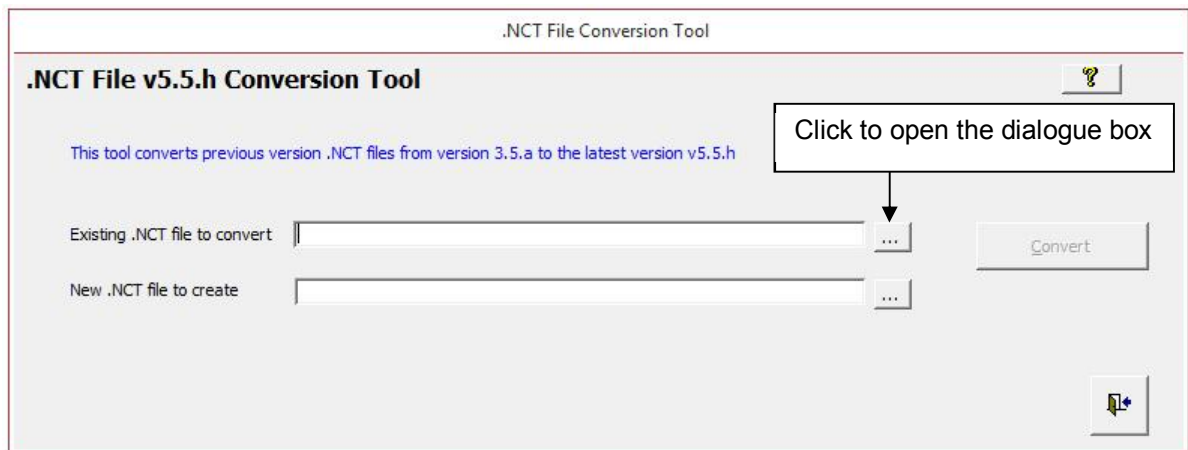
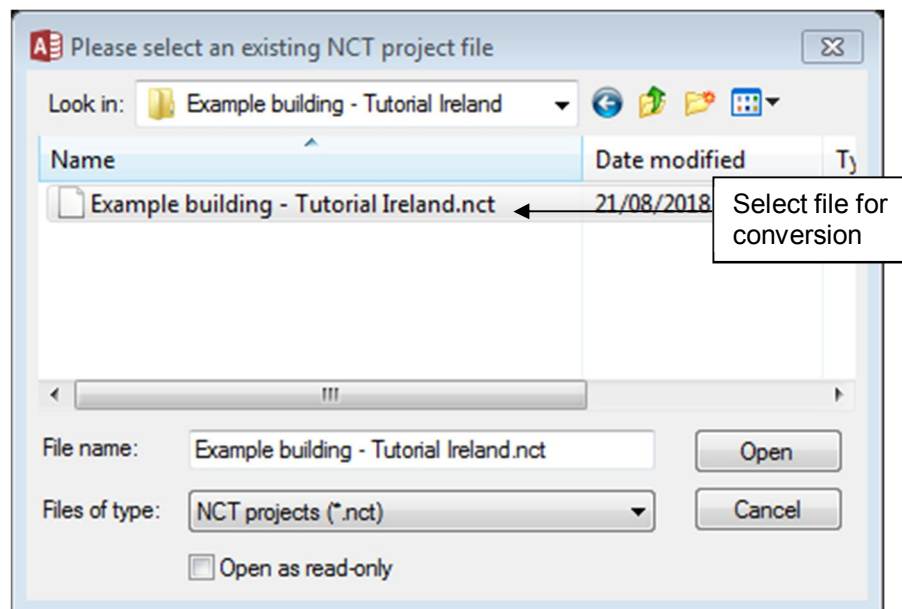

Figure 17: Selecting a file to convert - stage 1
Figure 18: Selecting a file to convert - stage 2
2. **Select the file you want to convert** - To do this, click on the button shown in Figure 17. This opens a dialogue box, shown in Figure 18, from which you need to browse to find the file you want to convert. Once you have found the file, click on ‘Open’. This file must have been created using iSBEM_v3.5.a or iSBEM_v3.5.b or converted to iSBEM_v3.5.a or iSBEM_v3.5.b.